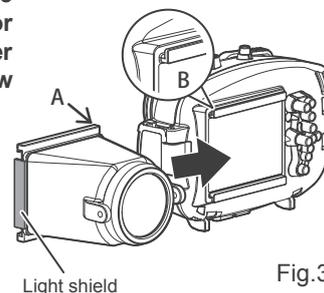

Fig.3
3 Align the edge of rail (A) with the edge of the housing LCD monitor hood holder (B) and slide together following the direction of the arrow (Fig.3)